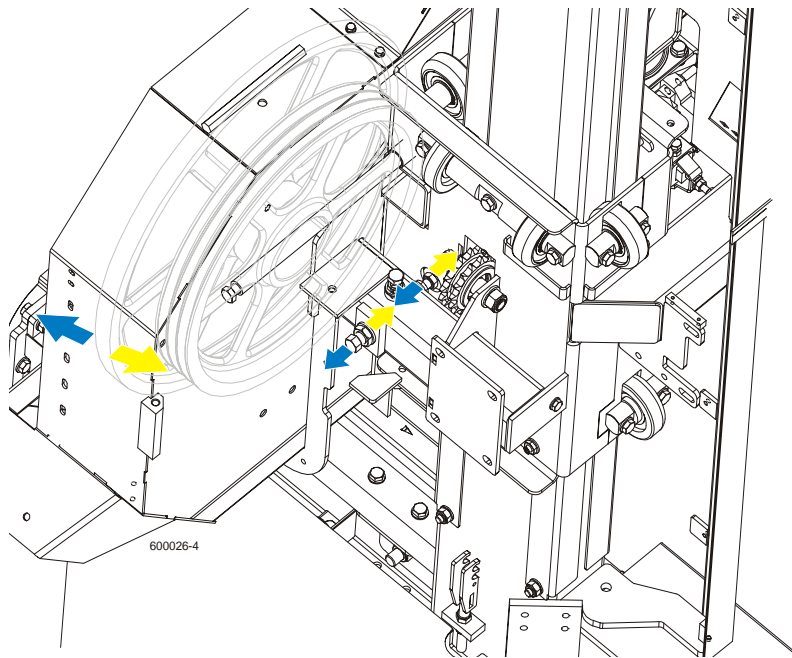

**FIG. 5-24**
**See Figure 5-24.** Use the cant control adjustment to adjust the idle-side blade wheel. If the blade is too far forward on the wheel, turn the cant control counterclockwise. If it is too far back on the wheel, turn the cant control clockwise.